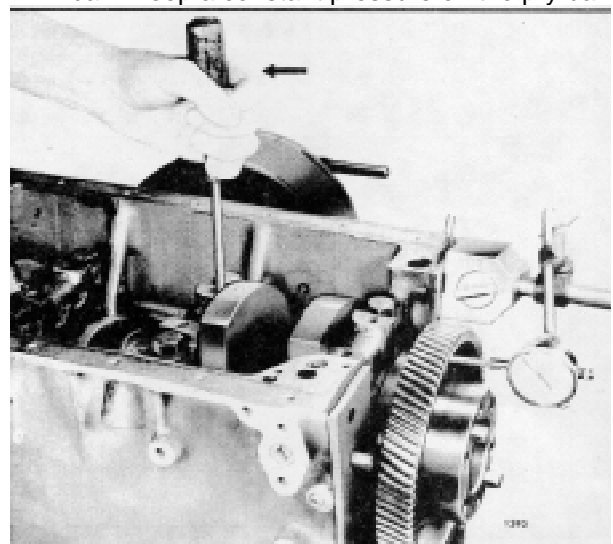

Fig. 9. Checking Crankshaft End Play
7. Check the crankshaft end play by moving the crankshaft toward the gage (Fig. 9) with a pry bar. Keep a constant pressure on the pry bar